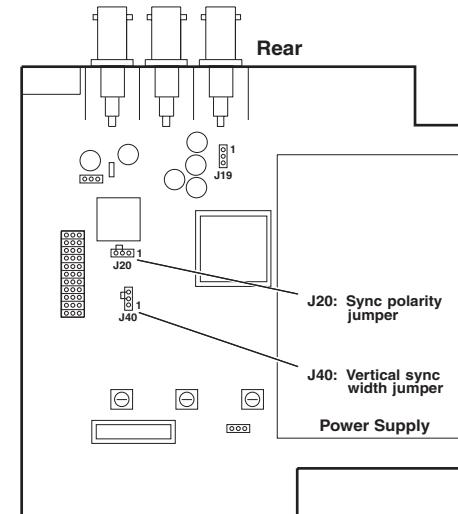

Figure 2-15 — Circuit board jumper locations
3. Note the positions of jumpers J20 and J40 before changing jumper settings. Figure 2-15 shows the locations of the J20 and J40 jumpers and the two possible setting combinations for 3-pin jumpers.